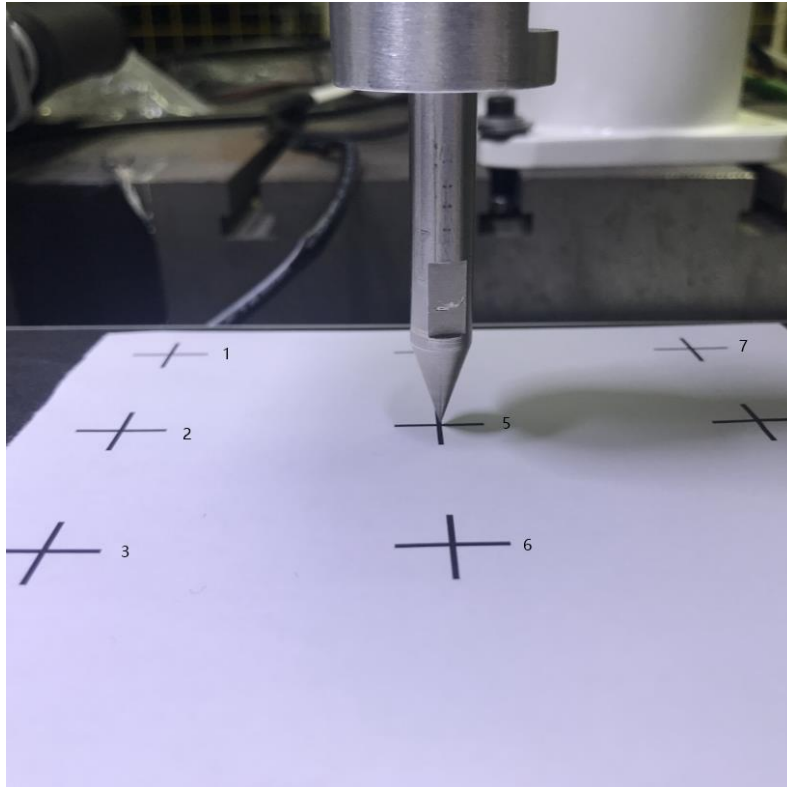
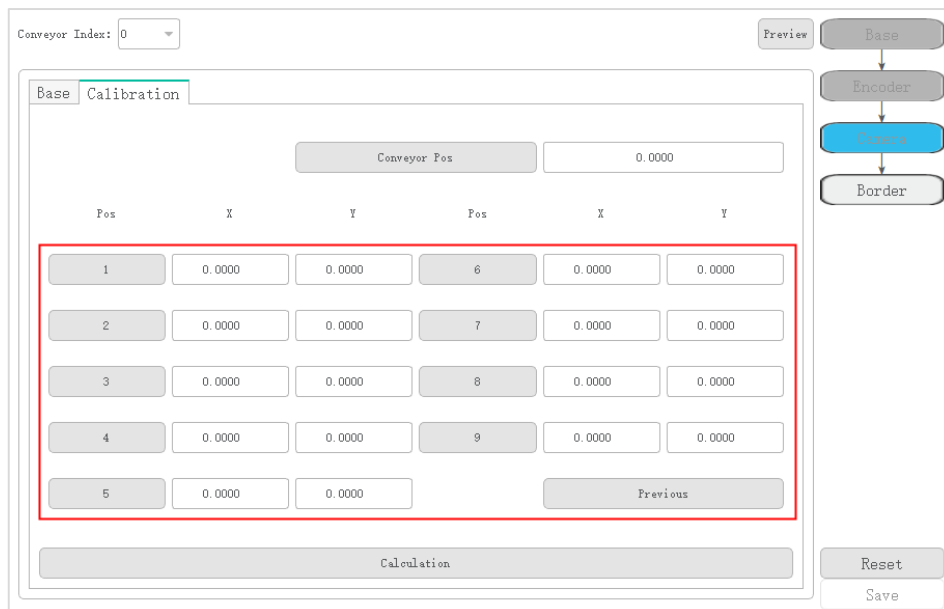

Figure 5.17 Vision calibration
Figure 5.18 Get the Cartesian coordinates of the nine points on the calibration board
7. Jog the robot to the corresponding nine points on the calibration board and click the right index on the calibration page respectively as shown in Figure 5.17 and Figure 5.18.